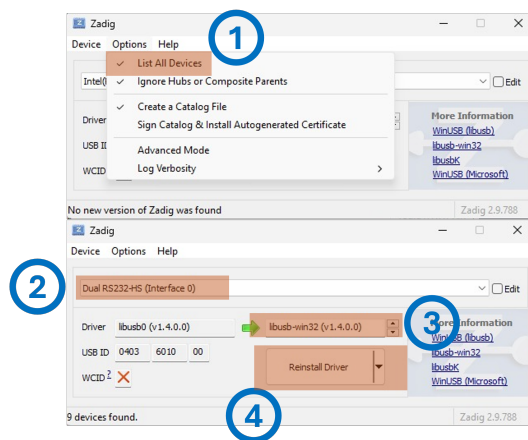

Figure 4: Steps to install driver using Zadig
- Open Zadig from the location of the folder where you downloaded it. Click on "Options" tab and select "List All Devices". Then select "Dual RS-232-HS (Interface 0)" as represented by 2 in Figure 4. Choose "libusb-win32" software as represented by 3 in Figure 4. Finally click on "Install or Reinstall Driver" as represented by 4 in same Figure 4.